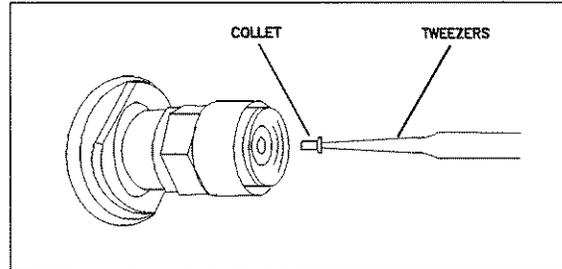

Figure A-2. Inserting a Collet
3. Carefully insert the collet (narrow end first) into the connector center conductor (Figure A-2).